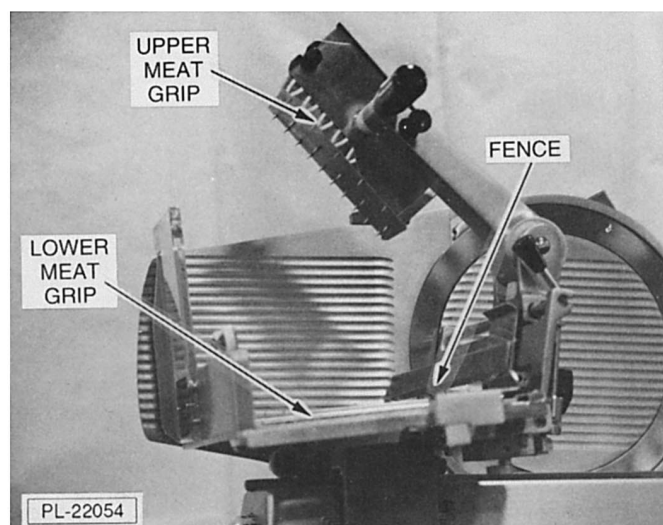

Fig. 39
6. Remove fence, lower meat grip and upper meat grip in that order (Fig. 39).